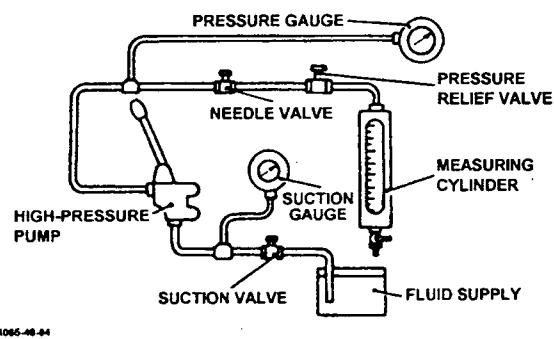

Fig 1 Test rig circuit
- 1. Using hydraulic test rig 4G/4920-99-4420654 with circuit as shown in Fig 1.